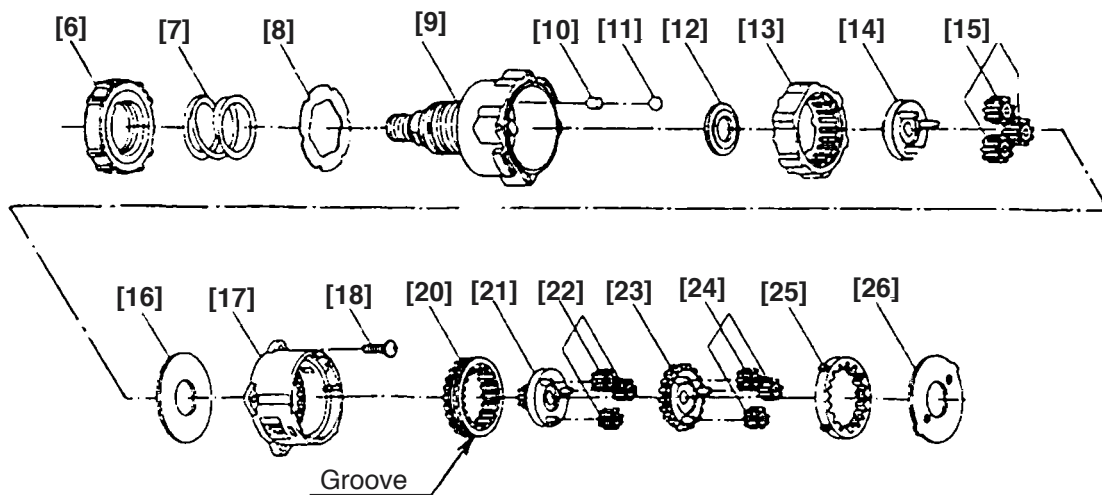

Fig. 13
(b) Install the parts series from the six Rollers [10] to Washer (B) [26] into the assembly reassembled in step (4). (See Fig. 13.)